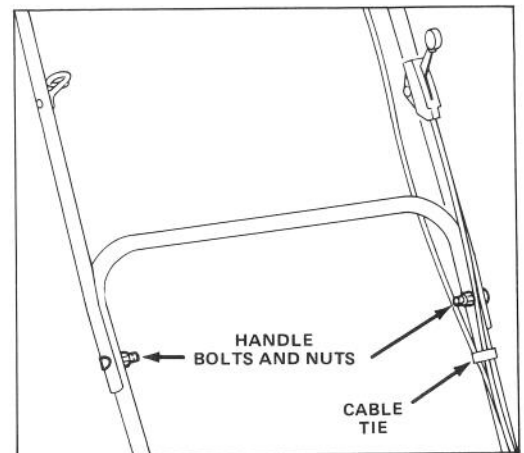

Figure 2
2. UPPER HANDLE (Fig. 2) – Secure upper and lower handles in place with handle bolts and nuts. Control cables must be in front of lower handle cross member. Secure control cables in position with cable ties.